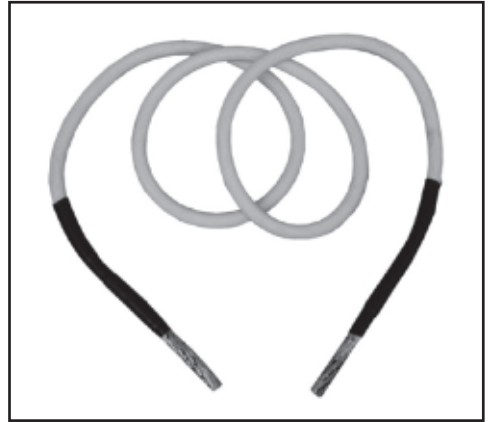

FIG.4
8.4 FLEXIBLE COIL - FIGS. 4 - 6